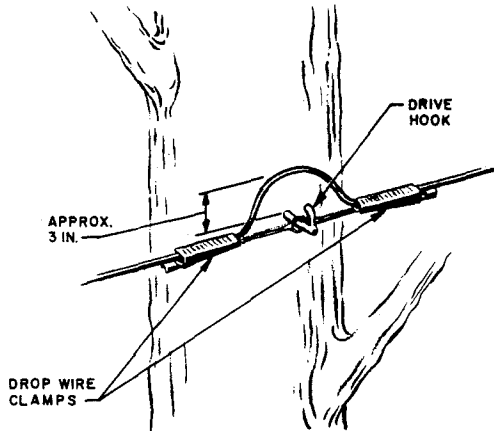

Fig. 14—Straight Run on Large Diameter Tree
5.03 Drive hooks may be used on limbs or trunks of trees having diameters of 6 inches or more. On straight runs or corners, attach the drop wire to the drive hook as shown in Fig. 14 and 15.
5.04 *Not more than four drop wire clamps shall be attached to one drive hook, nor a total of three drop wire clamps in one direction for either condition shown in Fig. 14 and 15.*